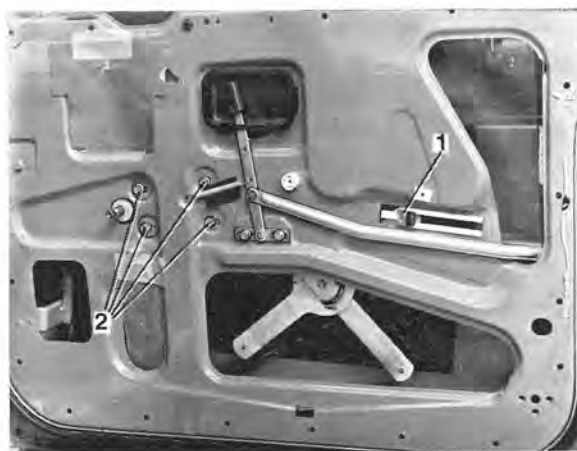

Fig. 8-19. Front door, interior
4. Remove the clip (1, Fig. 8-19) at one of the crank arm's retaining points in the door.
5. Remove the door window crank mechanism retaining screws (2, Fig. 8-19).